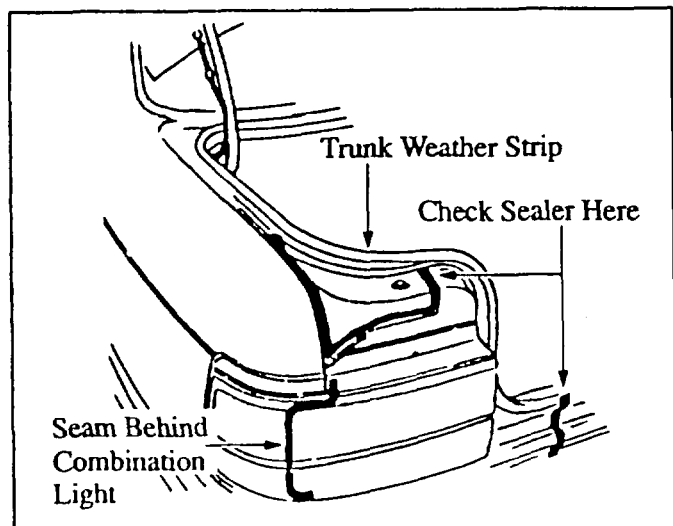
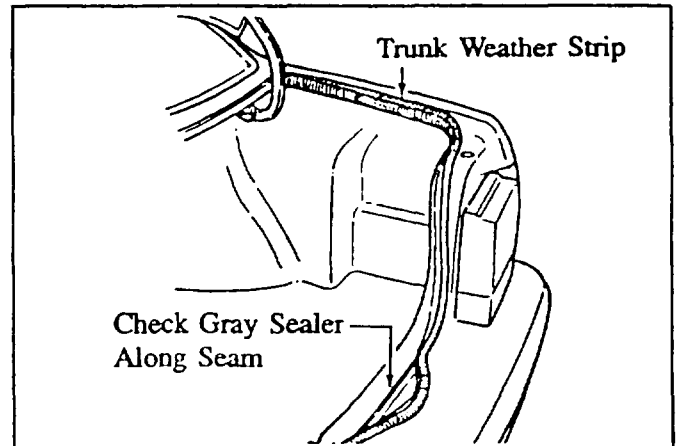

Figure 21: Inspecting Rear Trunk Area
Figure 22: Checking Grey Sealer Under Trunk Weatherstrip
Figure 21 and Figure 22.
2. If water is located behind the interior trunk end-panel trim or carpet, remove the trim panel. Direct a stream of water at the rear of the vehicle and pinpoint the location of the leak. Check the body seams for any pinholes or missing sealer. **Figure 21.**
4. If the leak is from the combination lamp(s) area, confirm that the mounting studs/nuts are tight and the assemblies are not cracked. Check end panel-to-quarter panel seams for any pinholes or missing sealer. If the leak continues, remove the combination lamp(s) and gasket(s). Install a new gasket to the combination lamp(s). **Figure 21.**